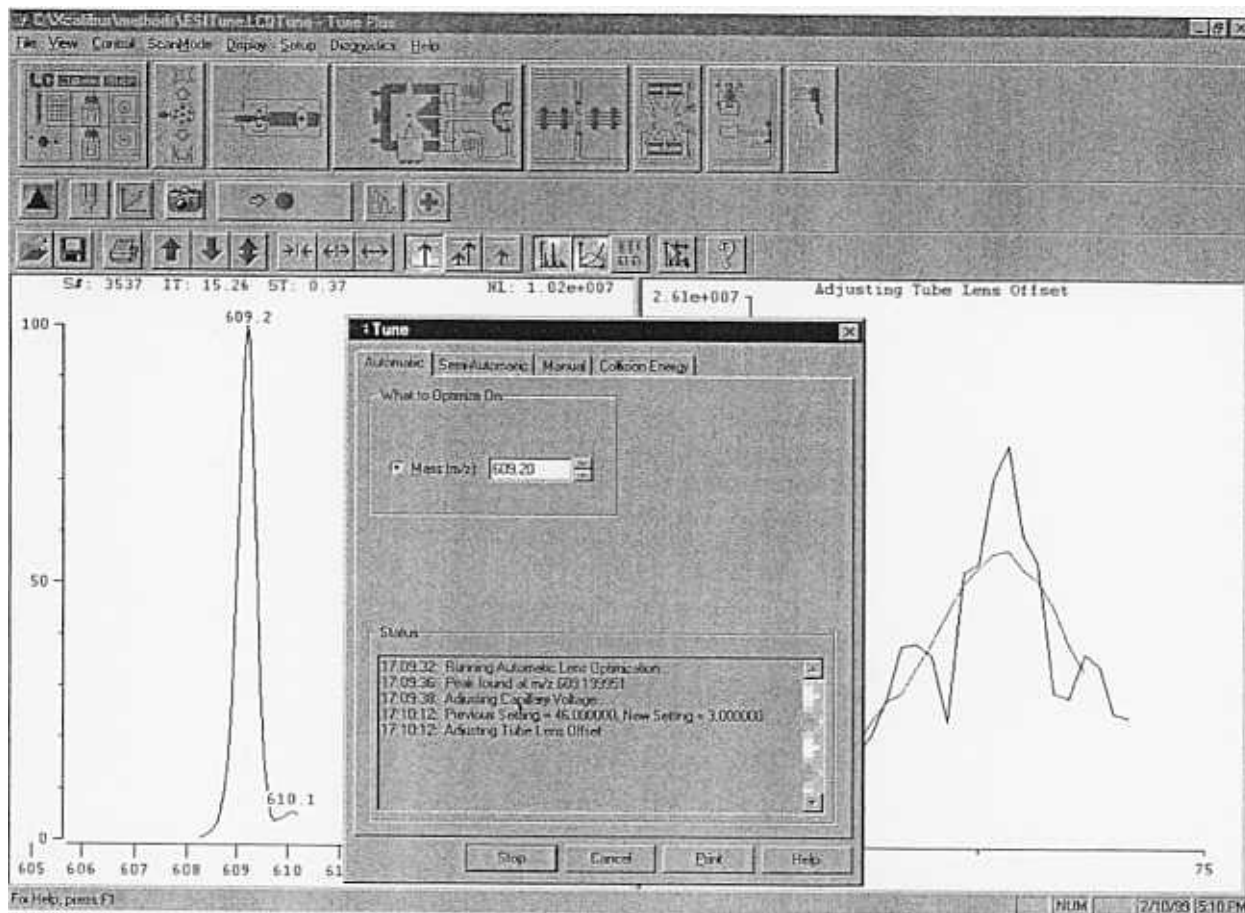

Figure 4-7. Tune Plus window with the Tune dialog box, showing the Automatic page
6. Observe the Tune Plus window and the Tune dialog box. While automatic tuning is in progress, LCQ Advantage displays various tests in the Spectrum and Graph views in the Tune Plus window and displays various messages in the Status group box in the Tune dialog box. Your Tune Plus window should now look like the one shown in Figure 4-7